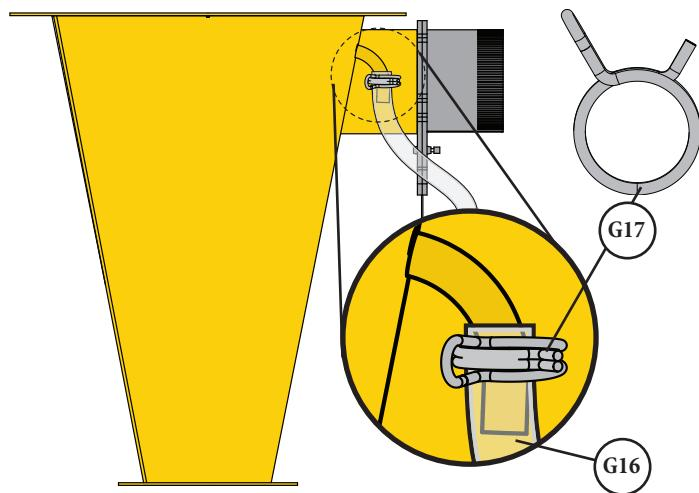

FIG. 19a
19 Using pliers, squeeze and open the Double Spring Clamp (G17) and slip it onto the shorter end of the Tubing Assembly (G16A). Then, with the clamp still open, slide the Tube Assembly (G16) onto the vent tube near the Cyclone's (E) inlet, closing the Spring Clamp once the hose is fully seated [FIG. 19a].